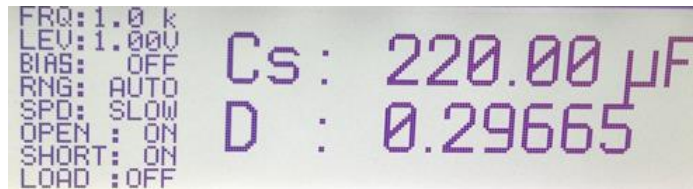

Fig. 2-2: Display of capacitance and dissipation factor for a capacitor at 1 kHz.
- The correct measurement function or circuit type is set automatically in Auto mode, which is enabled by default (see Fig. 2-8 and Section 2.1.2.1). In this case, C-D is displayed, i.e. capacitance C and dissipation factor D (Fig. 2-2).